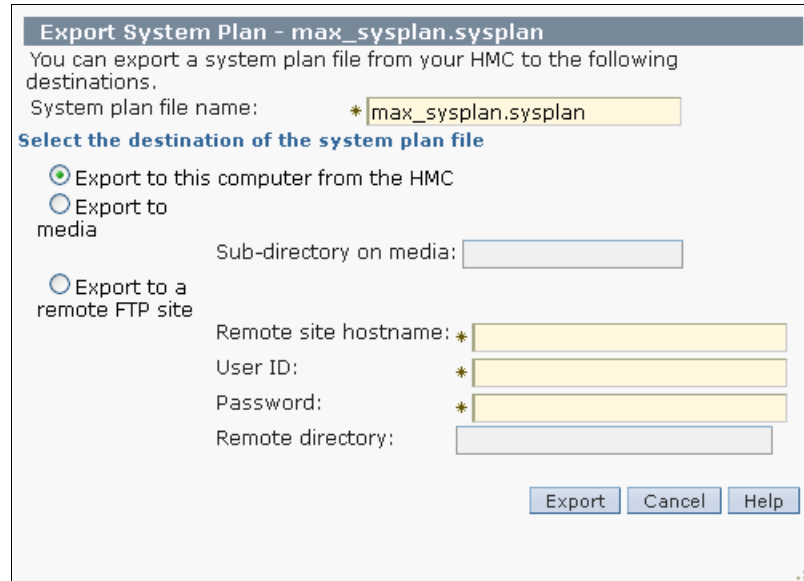

Figure 2-6 Export System Plan window
2. Click **Export System Plan** either from the Tasks menu or the content Tasks link in the lower portion of the window. A dialog box opens asking where you want to export the system plan (Figure 2-6). In our example, the name of the sysplan file is apr1119.sysplan and the target is media/USBstick directory.